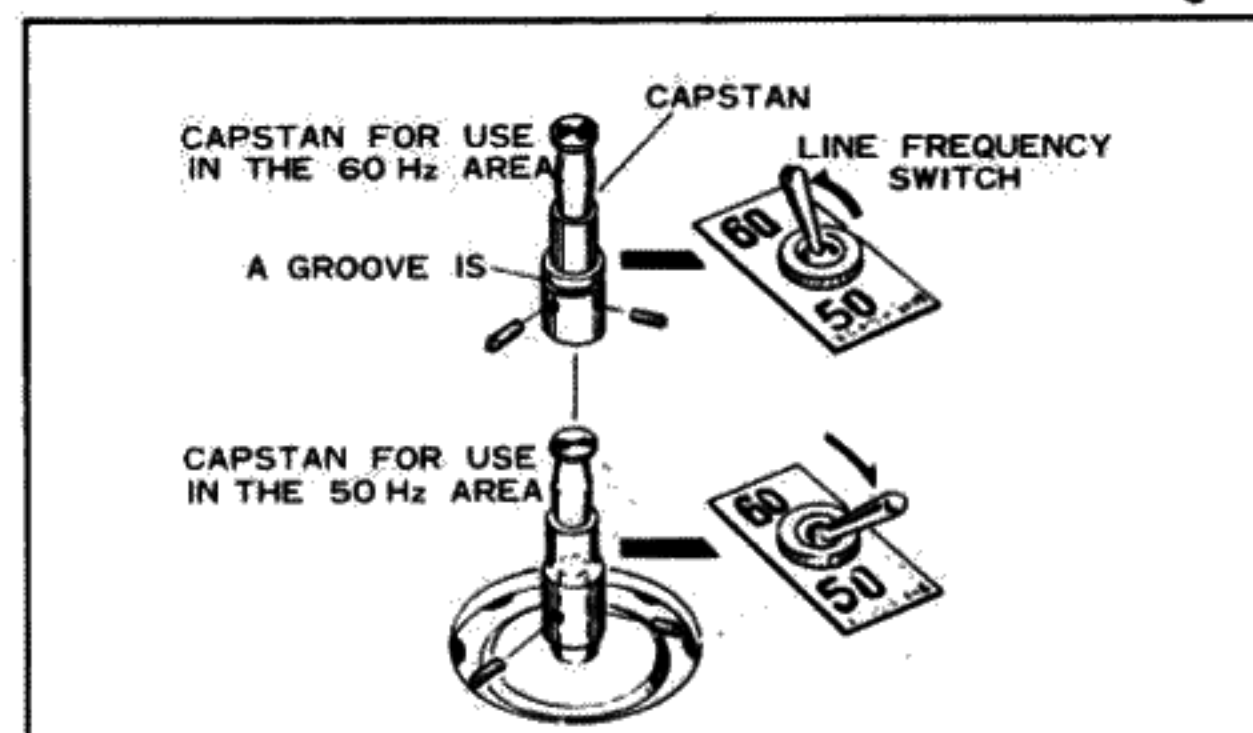

Fig. 3
- Loosen two setscrews on the side of the capstan using the small screwdriver furnished in the accessory group, and remove them. Then, pull out the capstan from the motor shaft. (Fig. 3)
- Loosen the clamp that is holding the spare capstan, remove the capstan from the resting place, and install it on the motor shaft. (Fig. 3)
- Set the line frequency switch to the proper frequency position. (Fig. 3)